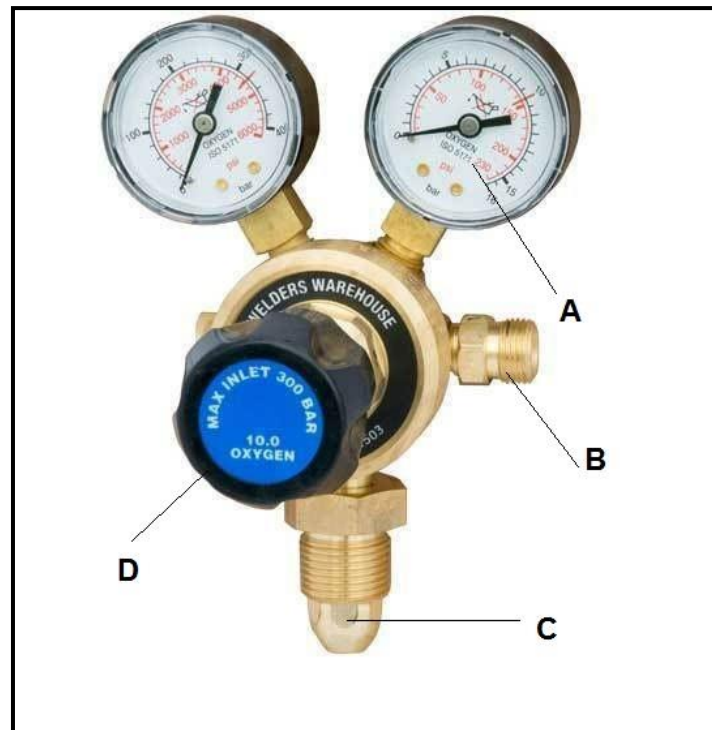

FIGURE 6.2
6.2 FIGURE 6.2 below shows a joining equipment.
6.2.2 Identify the joining equipment shown in FIGURE 6.2 above. (1)